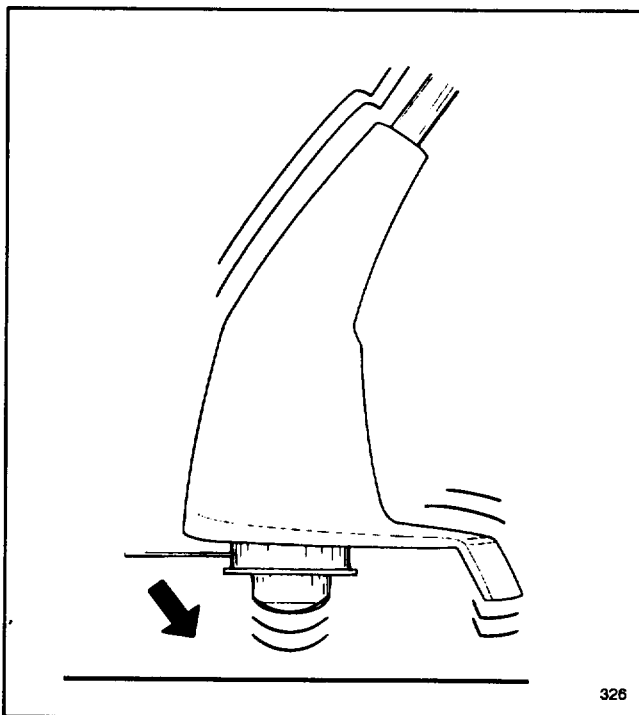

Figure 9
1. To lengthen line, firmly tap spool on the ground while the motor continues to run. The line will be fed from the spool and cut off to the proper length by the cutting knife attached to the shield (Fig. 9).